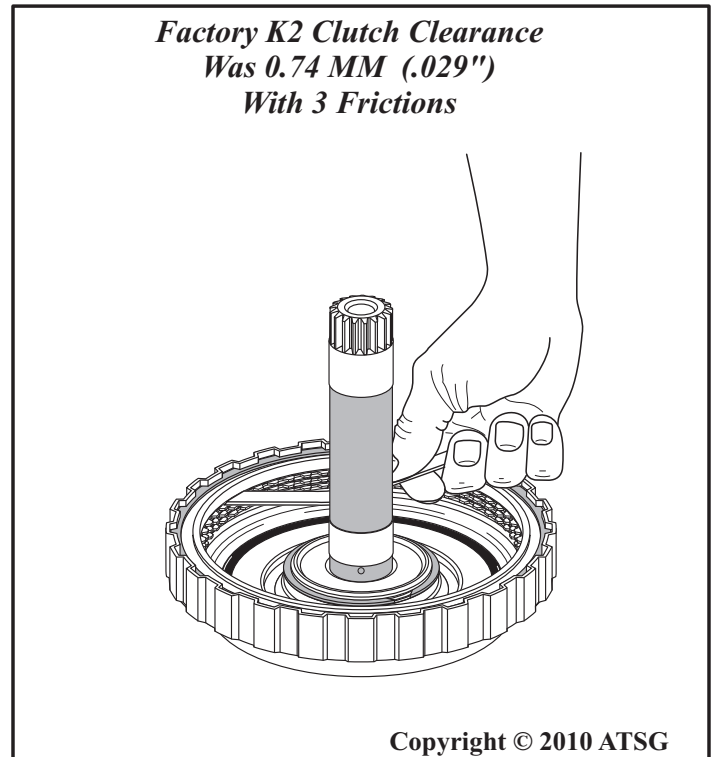

Figure 125
14. Measure the K2 clutch clearance with a feeler gauge between the backing plate and friction plate, as shown in Figure 125.
Note: There are no factory clutch clearance specifications available, but the clearances were the "traditional" .010" per friction plate through-out this unit. Refer to Figure 125 for K2 clutch clearance with 3 frictions.